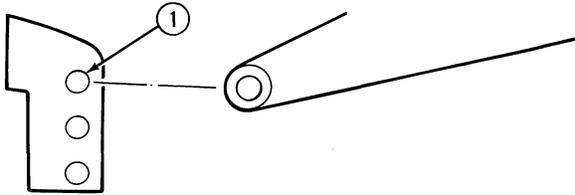

Figure 10
3. Install the digger with the boom link in the upper most tractor top link hole (1), Figure 10. Using the tractor three-point hitch controls, carefully raise and lower the hitch to check clearances between the digger, three-point links and the tractor.